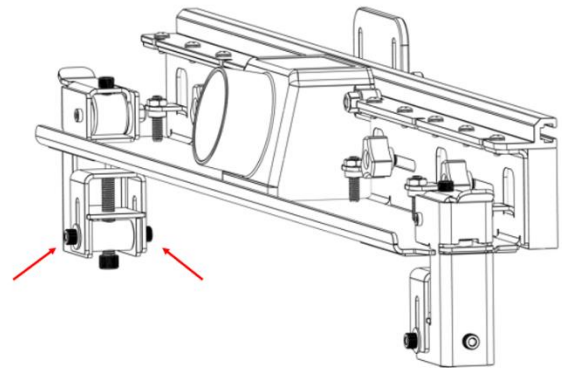

Figure 1 – Screws Mentioned in step 1
- 1- Loosen the two screws holding the clamp adjustment bracket in place, as seen in *figure 1*. Repeat for the other side.